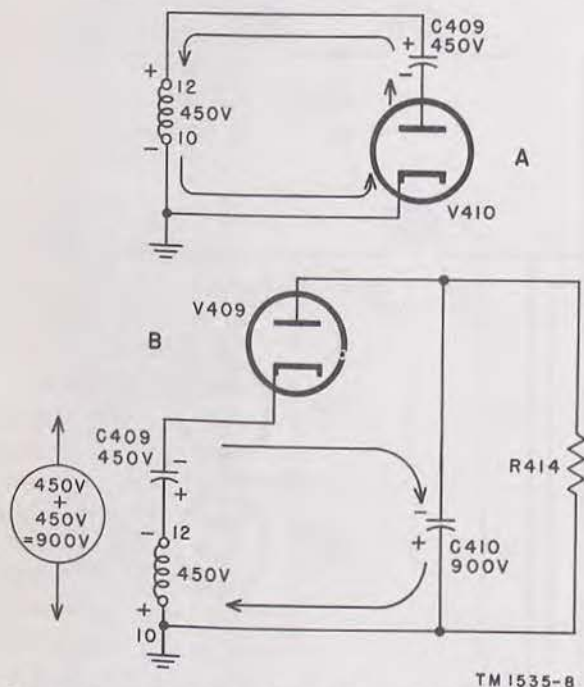

Figure 85. Keep-alive (-900 volts) power supply, charge and discharge paths.
ondary winding are then added to the 450 volts present across the capacitor, producing an effective 900 volts that are applied across tube V409 through resistor R414. Tube V409 conducts charging capacitor C410 to a peak value of 900 volts as shown (fig. 85⑤).